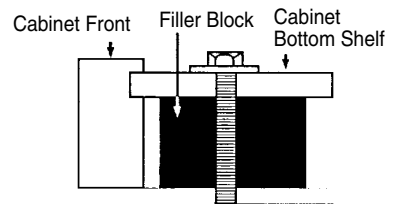

Figure 25
**NOTE:** If the bottom of the upper cabinet is recessed 3/4" or more, you will need 2"x 2" filler blocks (not included) to provide additional support for the bolts. See Figure 25.